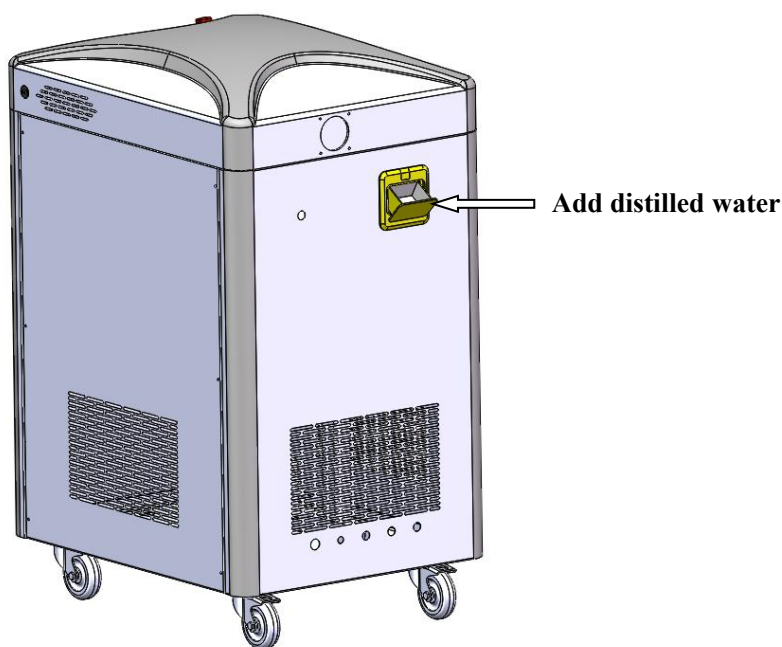

Figure 16
7.2. Check if there is distilled water in the clean water tank. How to add water: flip up the switch of the water box for adding distilled water, pour in distilled water, and the opened state of the water box is as shown in Figure 16